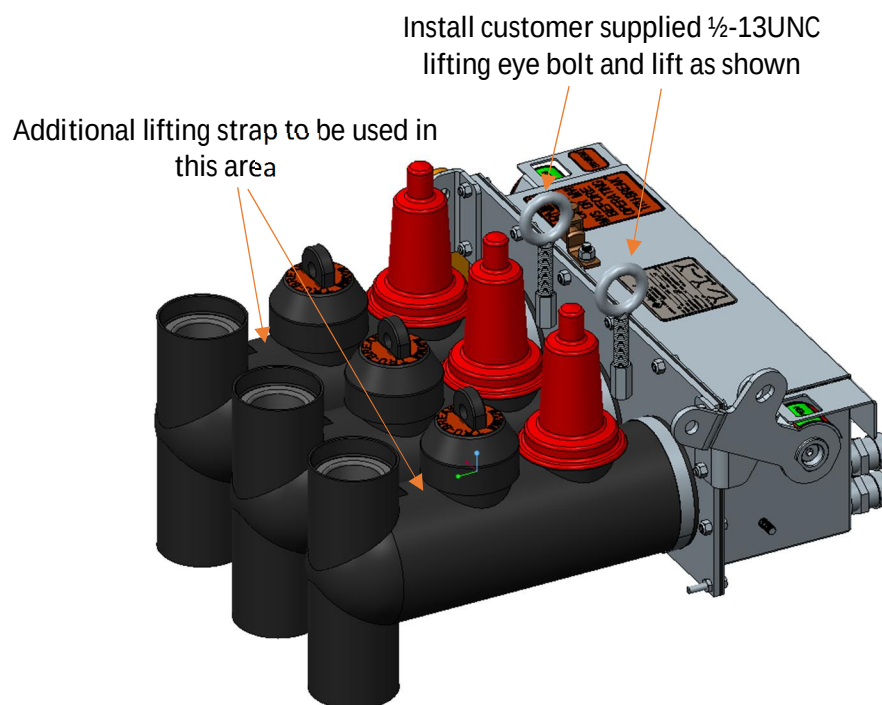

Figure 1 - Lifting of the Tru-Break
Step 2: An additional lifting strap can also be used in the area shown in Figure 1.